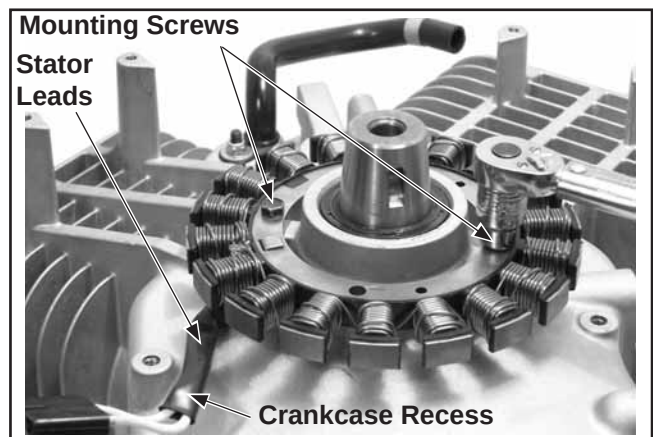

Figure 10-32. Installing Stator.
3. Install and torque the two hex flange screws to **6.2 N·m (55 in. lb.)**. See Figure 10-32.
4. Route the stator leads in the crankcase recess, then install the backing plate. Secure with the four hex flange screws. See Figures 10-32 and 10-33. Torque the screws in the indicated sequence to **7.3 N·m (65 in. lb.)**.